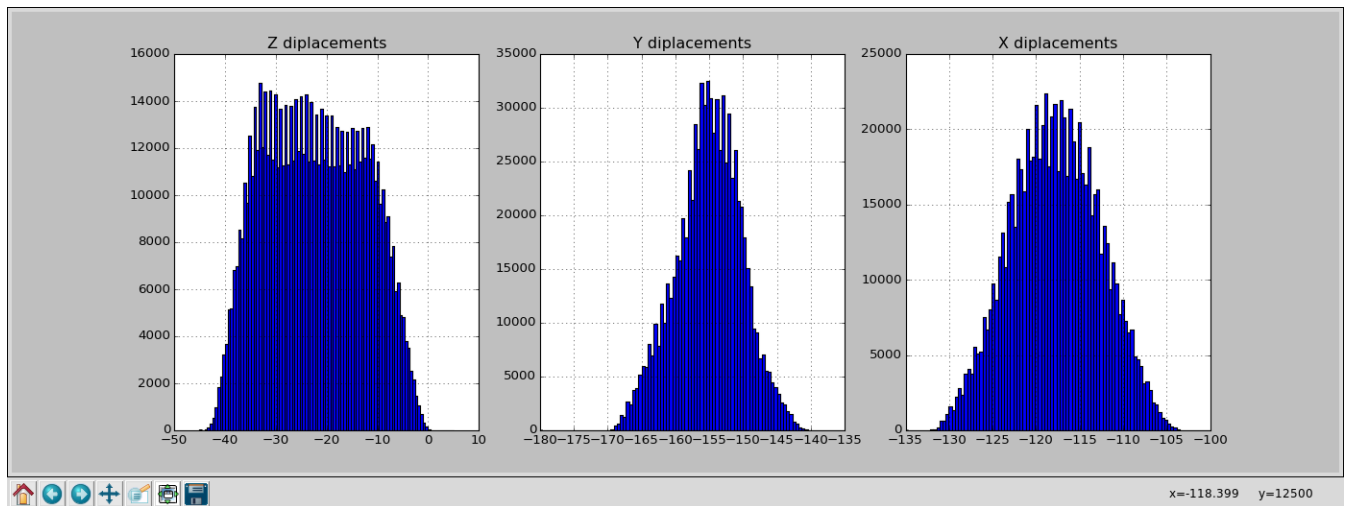

Figure 6.5: GUI - Post Process, histograms window
**Show Stack Histograms** bottom will open a new window (see Figure 6.5). X axis limits are controlled by the same text entry that set the contrast of the images.